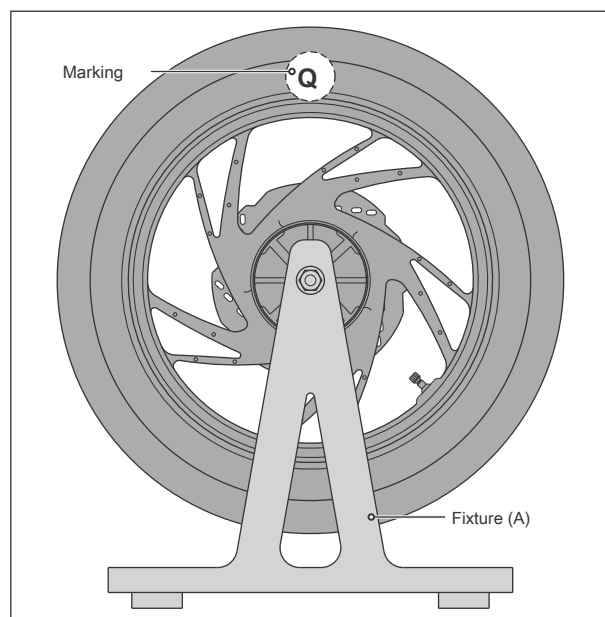

Fig. 2.131
2. Support the wheel as shown in figure using a fixture (A) and an axle. (Fig. 2.131)
3. Rotate the wheel by hand and mark (Q) at the top as shown in the figure when the wheel stops rotating (comes to a halt). (Fig. 2.131)